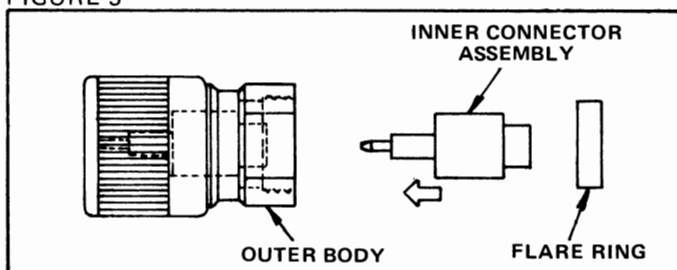

FIGURE 6
STEP 6. Seat inner connector assembly and flare ring into outer body. Refer to Figure 6. Inner assembly must be fully inserted into outer body as indicated by dotted lines.